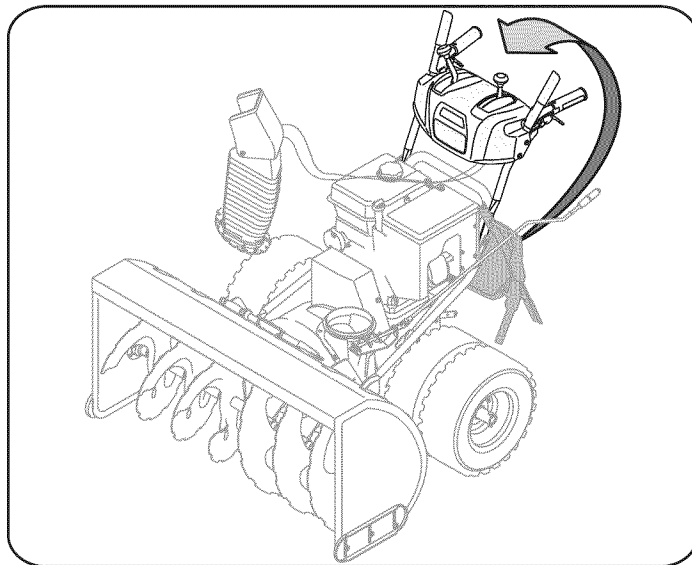

Figure 1
- c. Remove the upper wing knob and carriage bolt from each side of the lower handle. Pull up on upper handle as shown in Figure 1. Align upper handle with the lower handle. Again, make certain the springs at the lower end of the auger and drive cables are securely hooked into their respective actuator brackets. Also, remove any rubber bands securing the cables to the wing nuts.